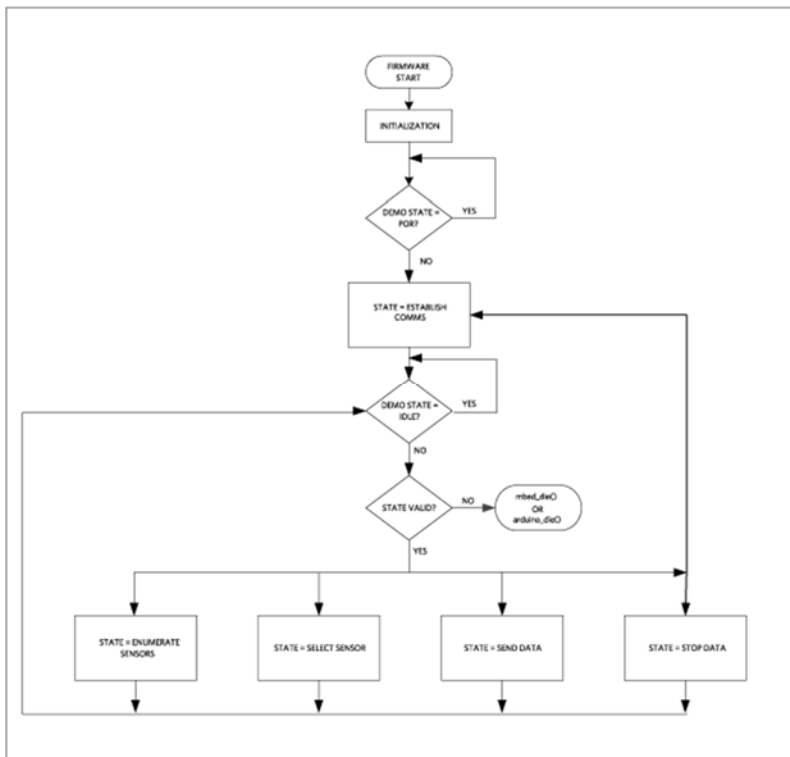

Figure 3. MAXREFDES131 Firmware flowchart.
**Figure 3** provides a flow chart for the operation of the firmware.